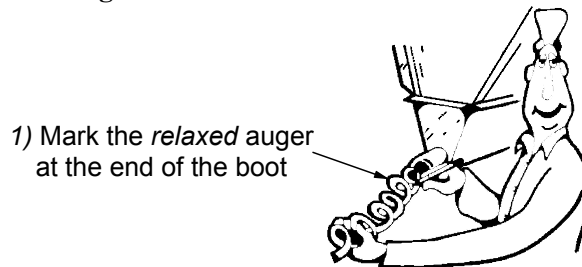

Figure 46. Measure the Auger from the relaxed position
10. Pull the auger at the boot end until it begins stretching. Then let it relax. In the *relaxed* position, mark the auger at the end of the boot. See **Figure 46**.